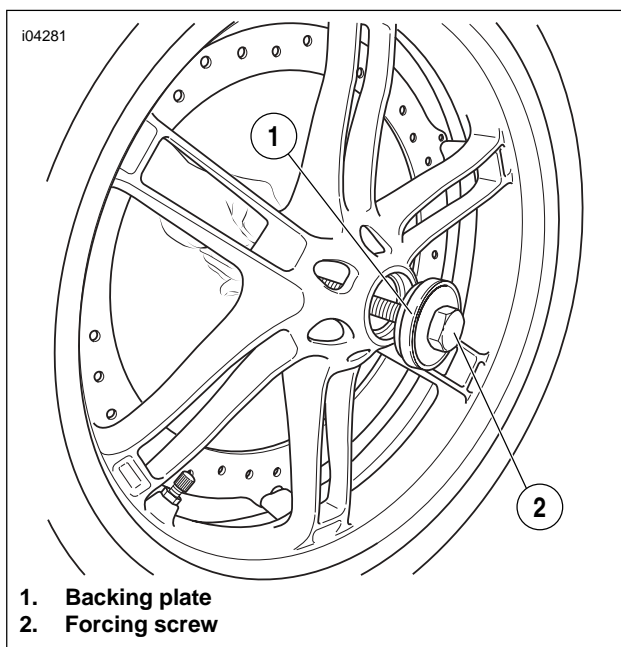

Figure 2-13. Install the Backing Plate (B-43993-11) and Forcing Screw
1. See Figure 2-13. Install the Backing Plate (Part No. B-43993-11) onto the long forcing screw from the Wheel Bearing Installer/Remover (Part No. HD-44060), with the smaller diameter toward the wheel hub. Insert the forcing screw and backing plate into the wheel hub.